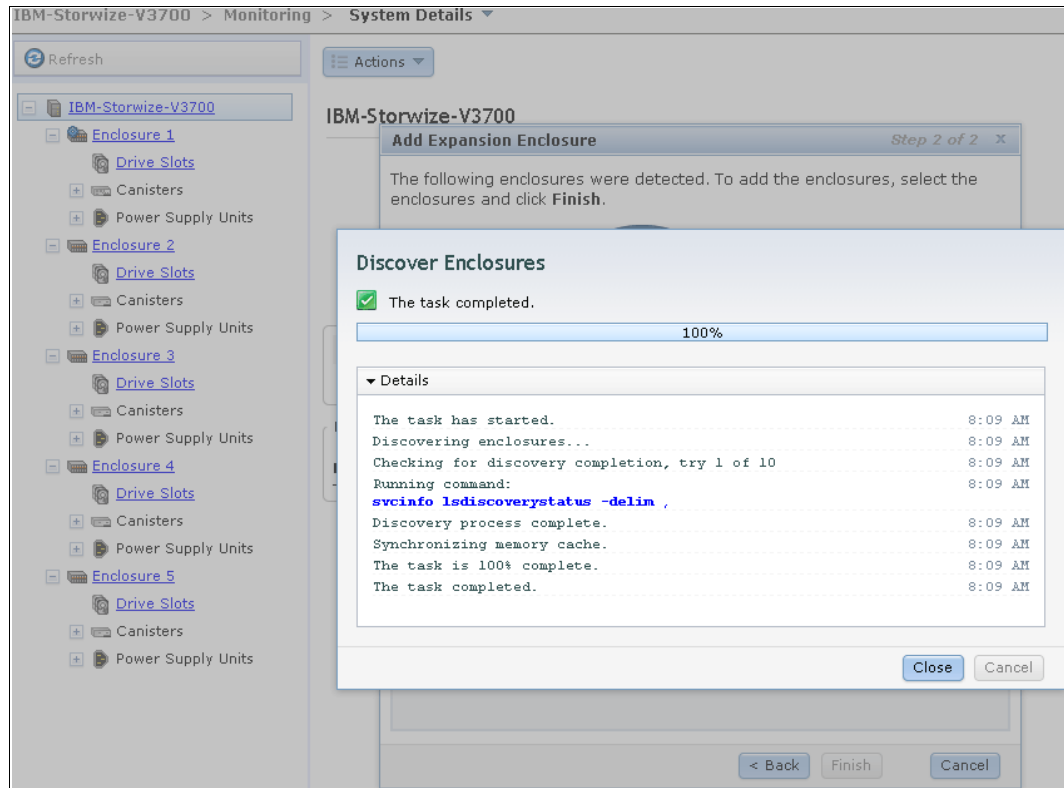

Figure 2-23 Discovery Enclosure
4. Preset discovery will detect the enclosure as shown in Figure 2-23 on page 48.